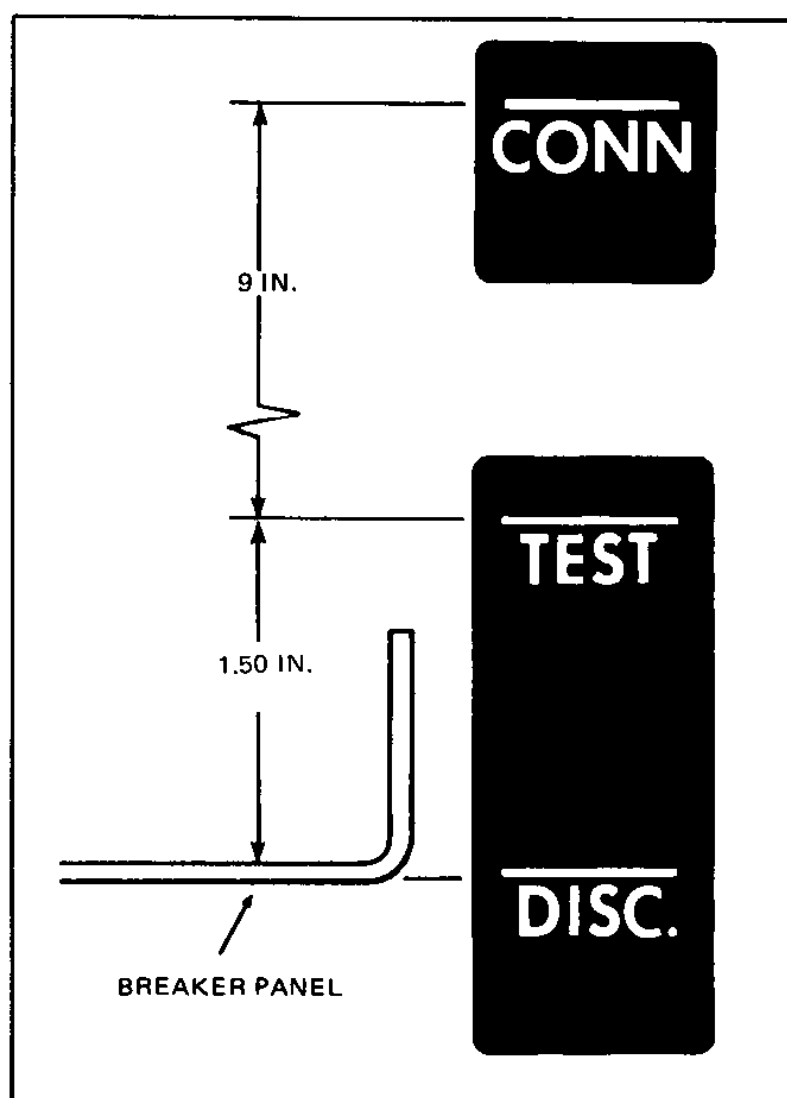

Figure 74. Circuit Breaker Position Indicator
4. Move breaker into disconnect position. See Racking Instruction (page 54). The funnel-shaped guide rails on the cubicle floor and a mating guide bar on the underside of the breaker will align the breaker with the cubicle on entry. When the disconnect position is reached, the interlock plunger on the circuit breaker will drop into the guide rail notch and the lower right hand edge of the breaker panel will be in line with the word DISC. on the position indicating label, Figure 74. The disconnect position notch in the guide rail is shallow, holding the breaker trip-free and preventing it from accidentally rolling into the secondary disconnect contacts of the test position. In this position, check the following items: